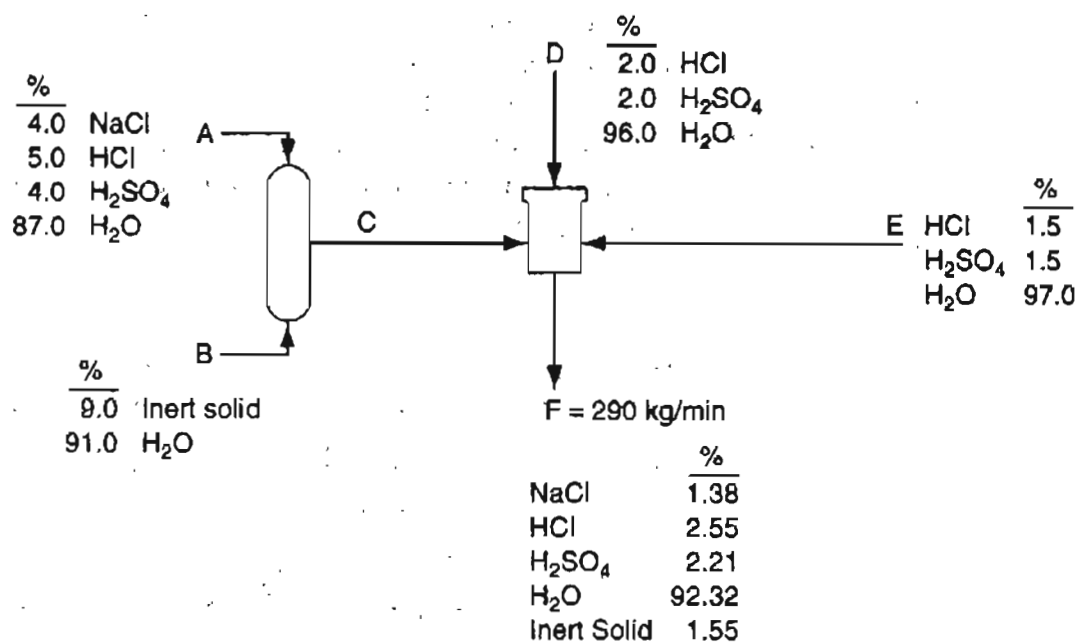

Figure P11.10
- **11.10** Several streams are mixed as shown in Figure P11.10. Calculate the flows of each stream in kg/s.